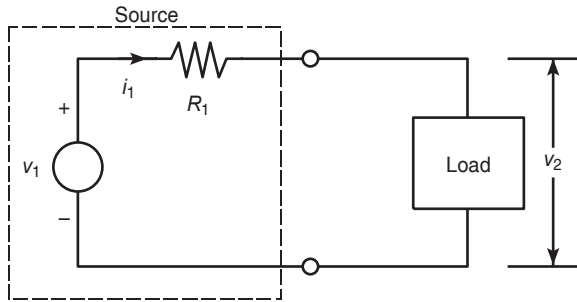

Figure P25
25. Figure P25 is a representation of an electrical system with a power supply and a load. The power supply produces the fixed voltage  $v_1$  and supplies the current  $i_1$  required by the load, whose voltage drop is  $v_2$ . The current–voltage relationship for a specific load is found from experiments to be